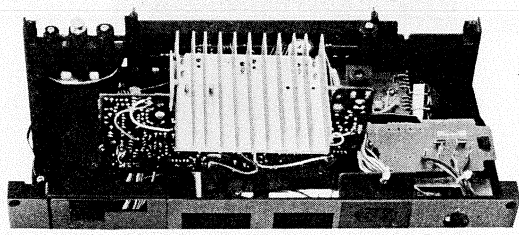

Fig. 17
- (1) Remove the tuner P.C. board.
- (2) Remove screws ① - ④, then take out the audio P.C. board as shown in Fig. 17.